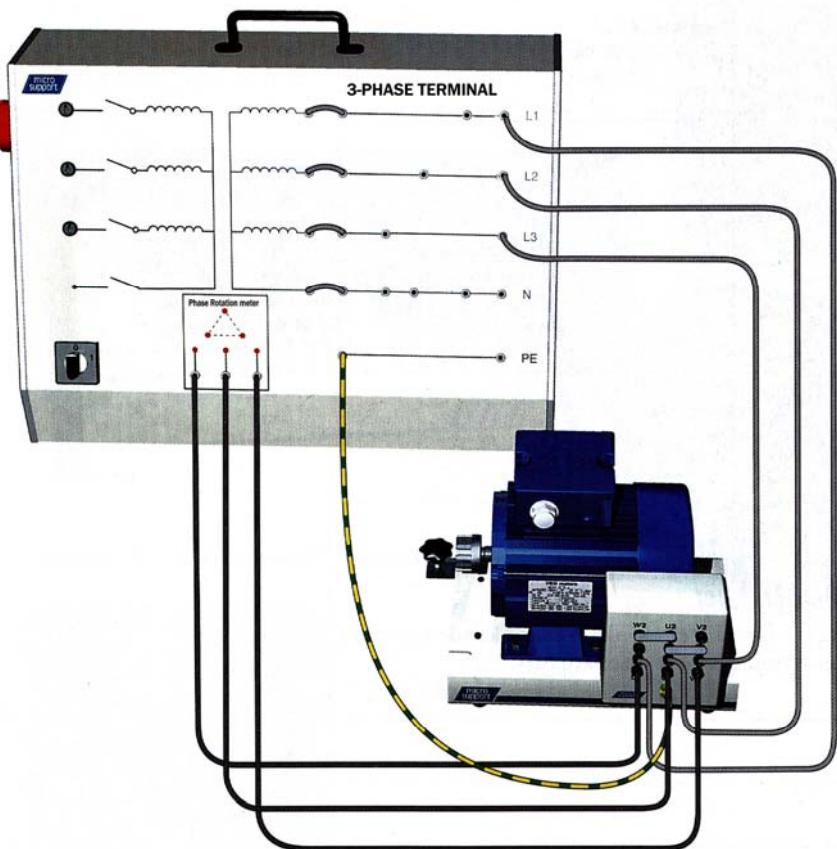

Fig. 2.3 3-Phase terminal with phase rotation meter and Vs motor.
- Connect the Vs motor and phase rotation meter as shown in figure 2.3.